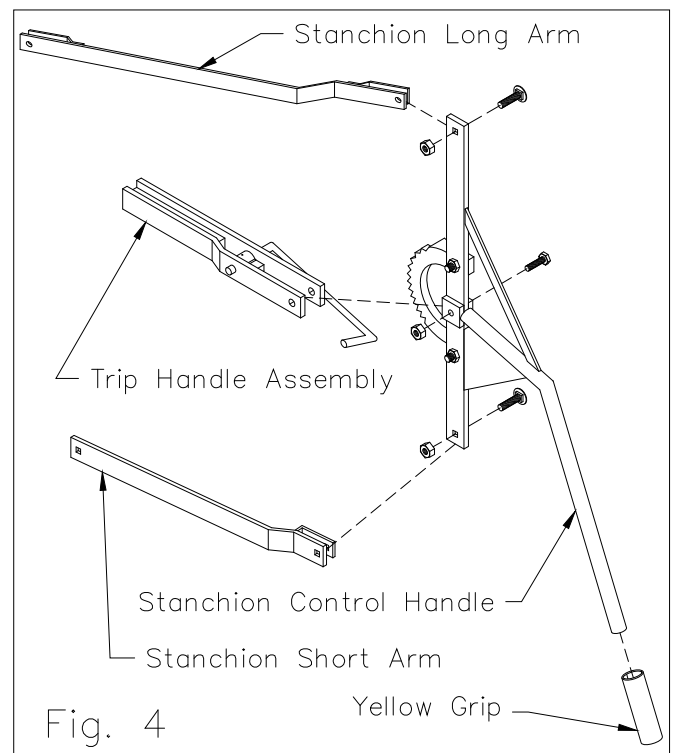

Fig. 4
Bolt the Long and Short Arms to the Stanchion Control Handle with (2) 1/2" x 1 3/4" carriage bolts and lock nuts as shown in figure 4.